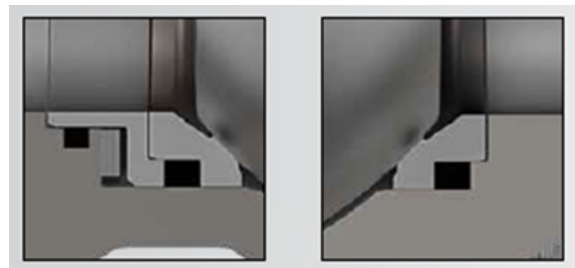

Figure 9
14. Insert S-ring (#42) into the body part (#1) over the wave spring (#41). Keep orientation of S-ring as shown in Fig.9.